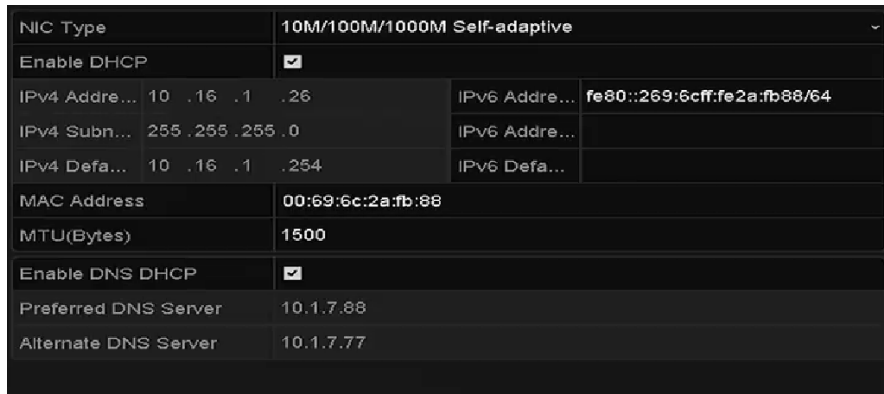

Figure 11-14 Network Settings Interface
Step 2 Set the IPv4 Address, IPv4 Subnet Mask, IPv4 Gateway and the Preferred DNS Server in the Network Settings menu, as shown in Figure 11-14.